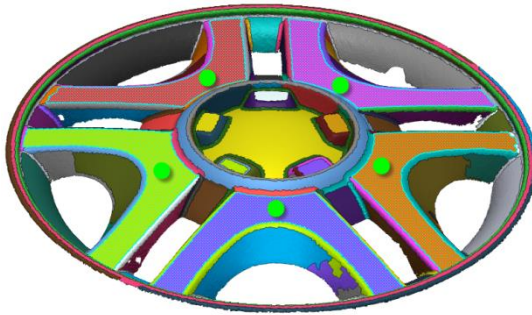

Figure 85
- Click on the five top **Sphere** regions shown in **Figure 85**.